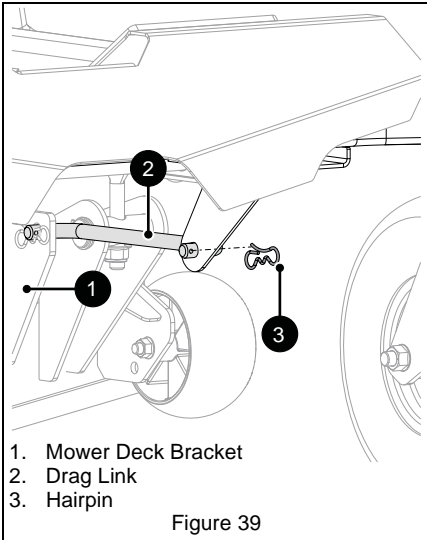

Figure 39
See Figure 39.
7. Reinstall drag link through mower deck bracket and secure with hairpin removed earlier. See Figure 39.